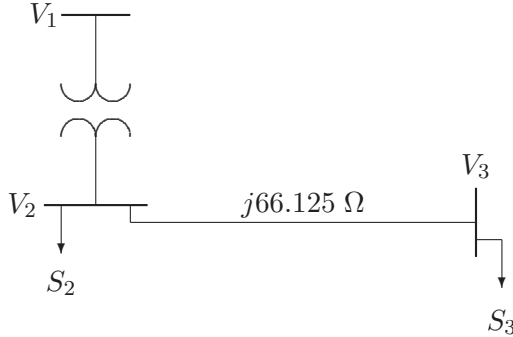

FIGURE 33
3.17. The one-line diagram of a three-phase power system is as shown in Figure 33. The transformer reactance is 20 percent on a base of 100-MVA, 23/115-kV and the line impedance is $Z = j66.125 \Omega$. The load at bus 2 is $S_2 = 184.8 \text{ MW} + j6.6 \text{ Mar}$, and at bus 3 is $S_3 = 0 \text{ MW} + j20 \text{ Mar}$. It is required to hold the voltage at bus 3 at $115 \angle 0^\circ \text{ kV}$. Working in per unit, determine the voltage at buses 2 and 1.